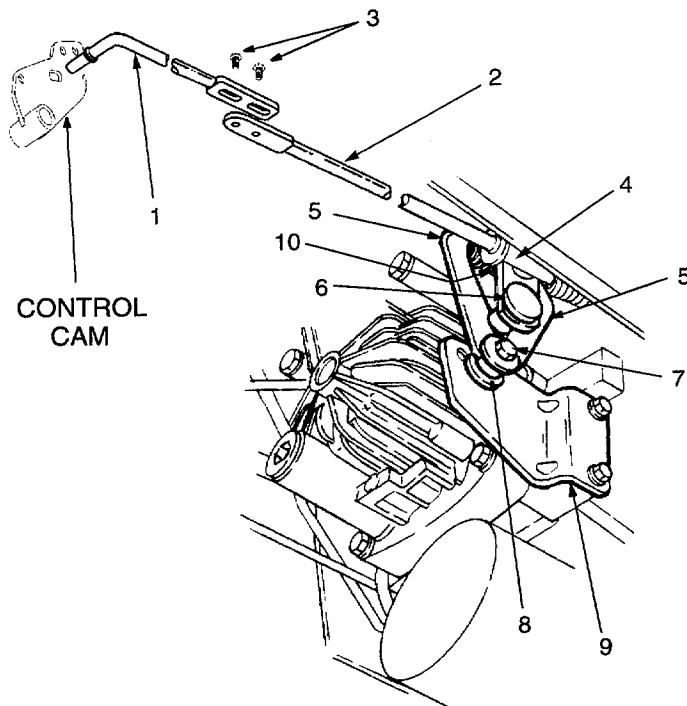

Figure 15
- a. Disconnect the hydro control rod from the control arm by removing the hairpin cotter from the pivot sleeve (Refer to Figure 15).
- c. If wheel rotation continues, loosen the locknut securing the hex cap screw and centering spacer to the neutral bracket (See Figure 15).
1. Loosen, but do not remove, the hex tap screws that fasten the front and rear control rods together (Refer to Figure 15).
2. While making certain to not move the front control rod, control cam or control arm (See Figure 15), slide the rear control rod in the direction necessary to directly align the pin of the pivot sleeve with the lower hole of the control arm.